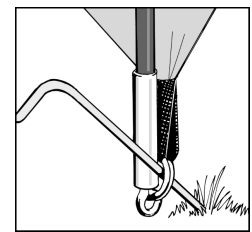

Figure 2.
2. Peg the corners of the tent through the metal rings using pin-pegs. It is important to drive the peg into the ground at a 45 degree angle to obtain the best grip. **(See Figure 2).**